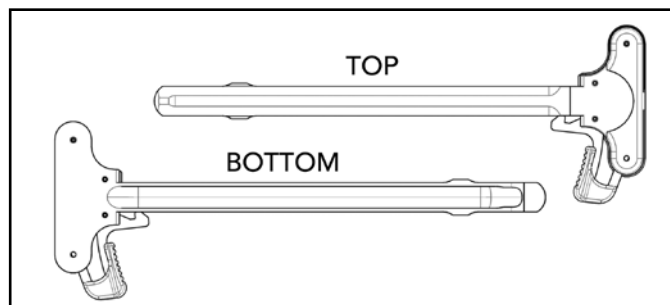

Fig. 71 – Lubrication of MR556A1 Charging Handle
5. Apply a medium coat of lubricant to the interior and exterior surfaces of the charging handle (Fig. 71).